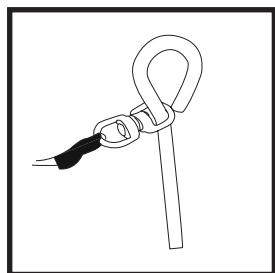

Fig. 2
4. Unroll the measuring tool and find the spike with black marked rope (Fig. 2).